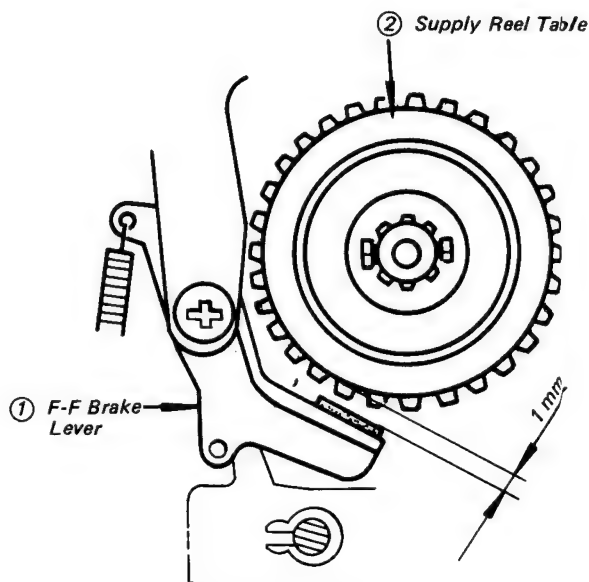

Fig. 5-69 Clearance Required Between End of F-F Brake Lever and Supply Reel Brake
##### 22-1. Checking (see Figs. 5-69, 5-70)
5. Also, make certain that there is clearance 1 mm between the surface of the F-F brake lever ① and supply reel table ② (see Fig. 5-69).